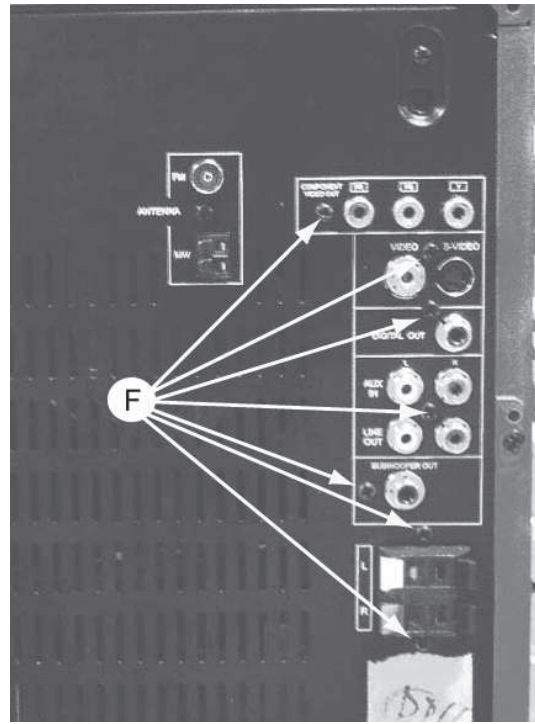

figure 8
- 1) Loosen 7 screws "F" at back panel as shown in figure 8